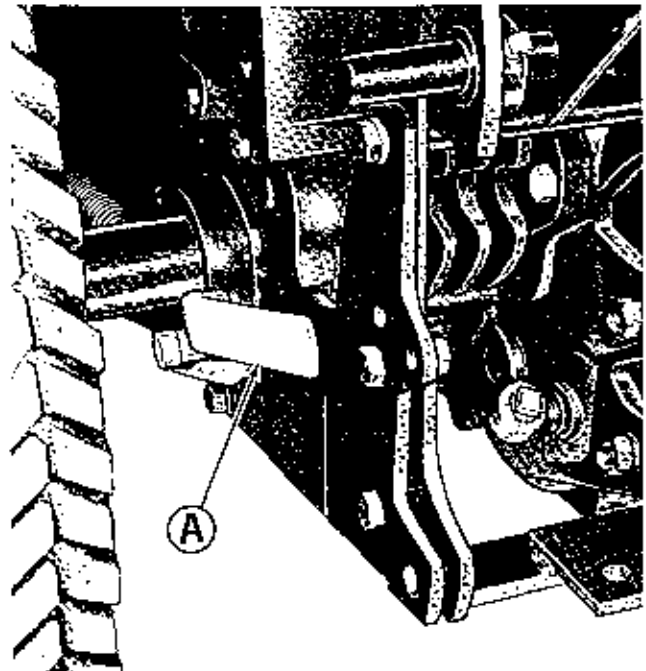

Figure 3. Belt tension lever located at rear of tractor.
5. See figure 3. Pull down on lever (A) to release the spring tension on the power take off idler pulley bracket.
7. See figure 3. Pull back on the spring tension lever (A). It will lock in position as shown in figure 3 to put tension on the mower drive belt.
2. See figure 3. Push downward on the spring tension lever (A) to release the spring tension on the mower drive belt.
4. See figure 3. Position the spring tension lever (A) as shown in figure 3.